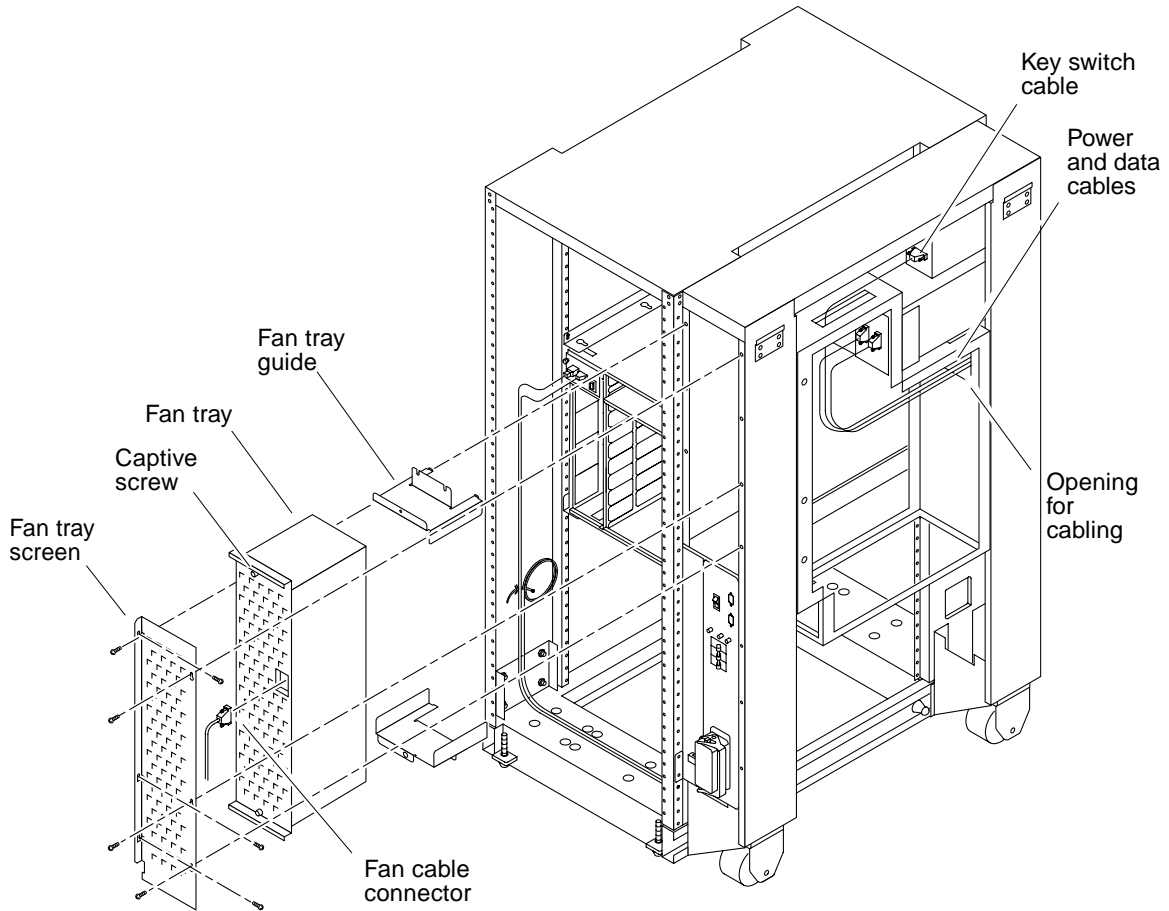

FIGURE 1-19 Rack Fan Tray Assembly
1. Remove the fan tray screen at the right rear of the chassis (FIGURE 1-19).
- 3. Loosen the captive screws at the top and bottom of the fan tray. (FIGURE 1-19).**
- 5. Remove the two screws securing each top and bottom fan tray guide to the cabinet pillar. Pull them out of the cabinet and discard (FIGURE 1-19).**
4. Tighten the captive screws at the top and bottom of the fan tray (FIGURE 1-19).
2. Connect the power and data cables to the back of the SCSI tray (FIGURE 1-19).